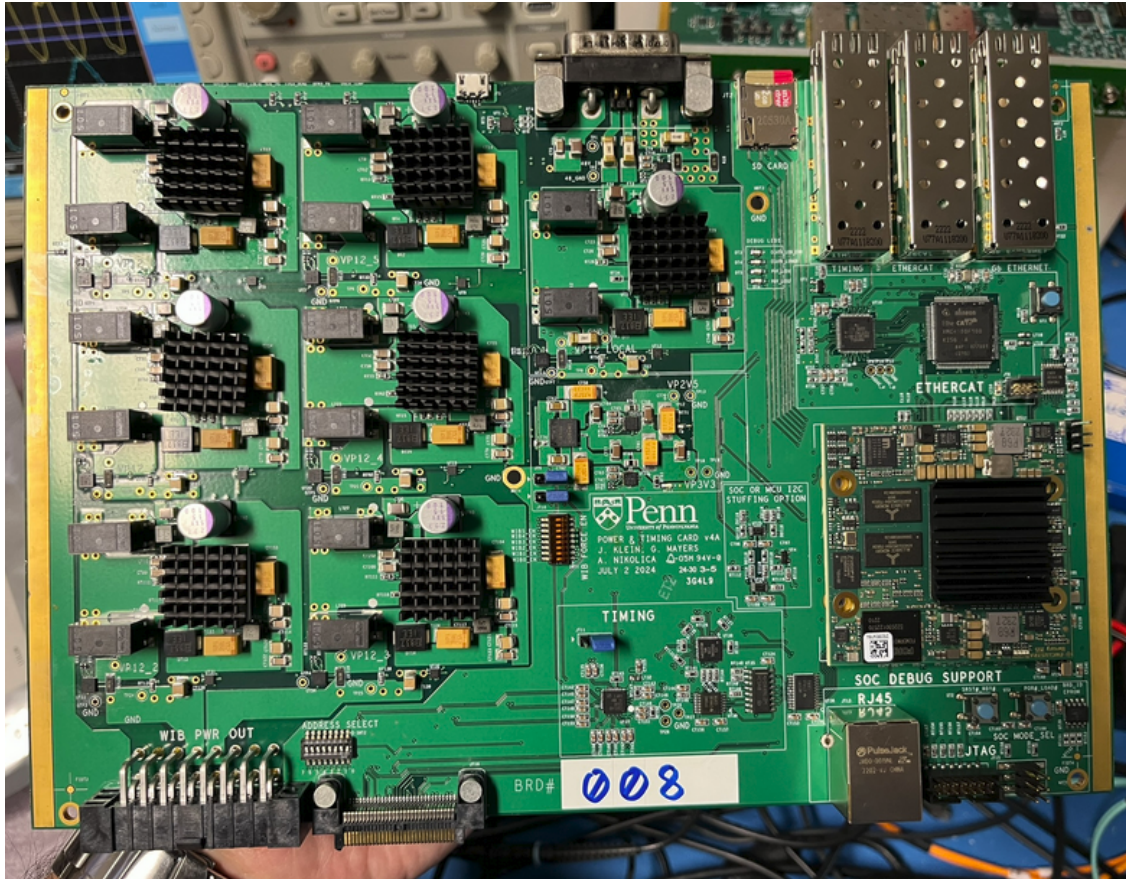

Figure 12: PTC with installed heatsinks
- (c) Remove the other side of the adhesive on the TIM and apply the heatsink with even pressure. An example of installed heatsinks is shown in Figure 12.